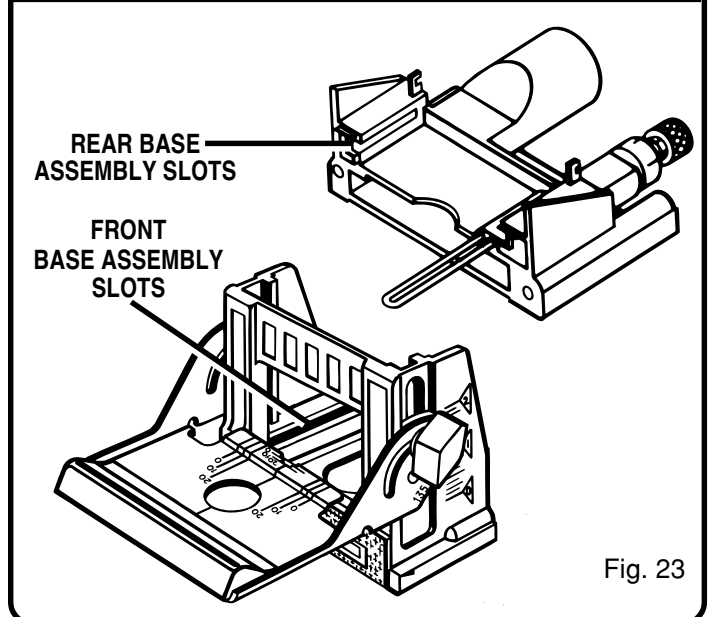

Fig. 23
9. Clean wood particles and resin from slots and surrounding areas on front and rear base assemblies. See Figure 23. Apply a thin coat of general purpose grease in slots or on bearing plate where base slides.